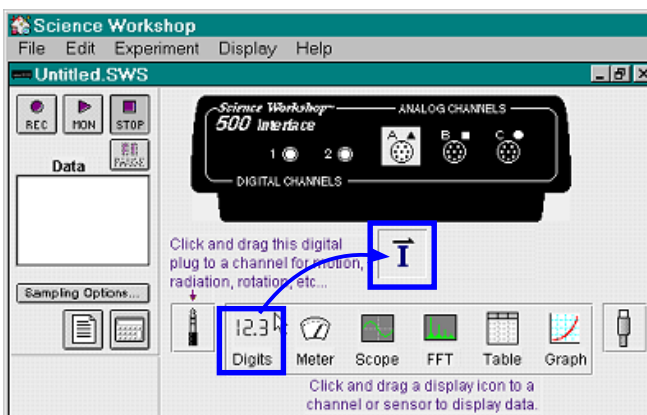

Figure 4. Opening a Display window in *Science Workshop*.
- 4 Open a display window, such as the Digits display, by dragging and dropping the appropriate display icon to the Current Sensor icon (Figure 4).